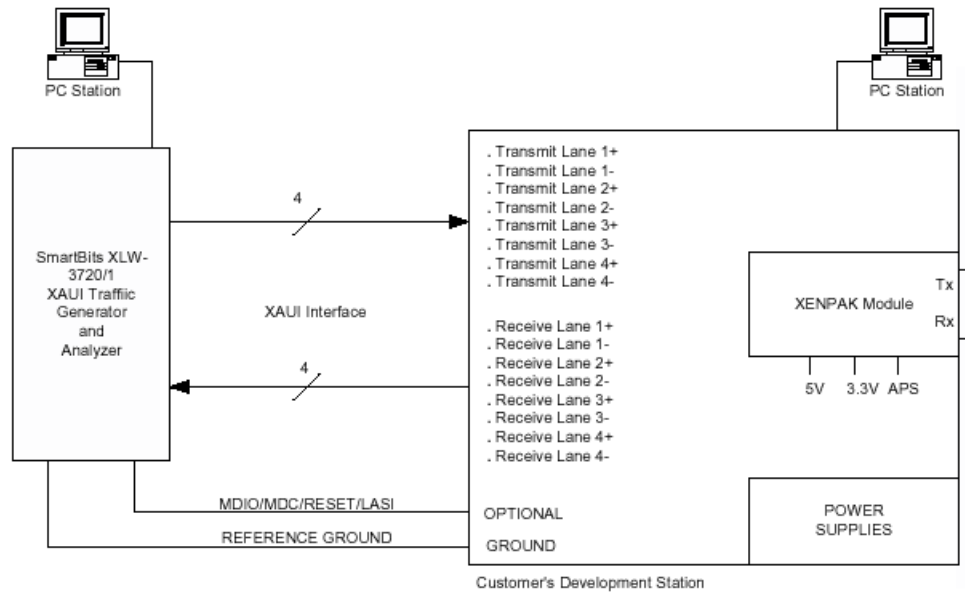
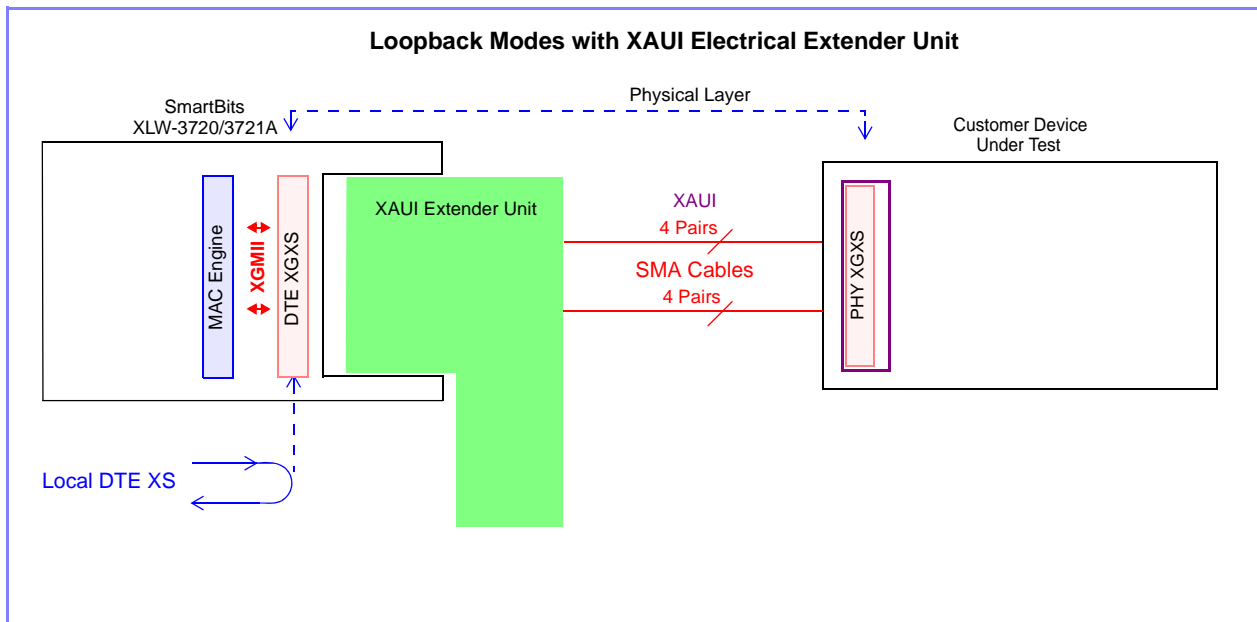
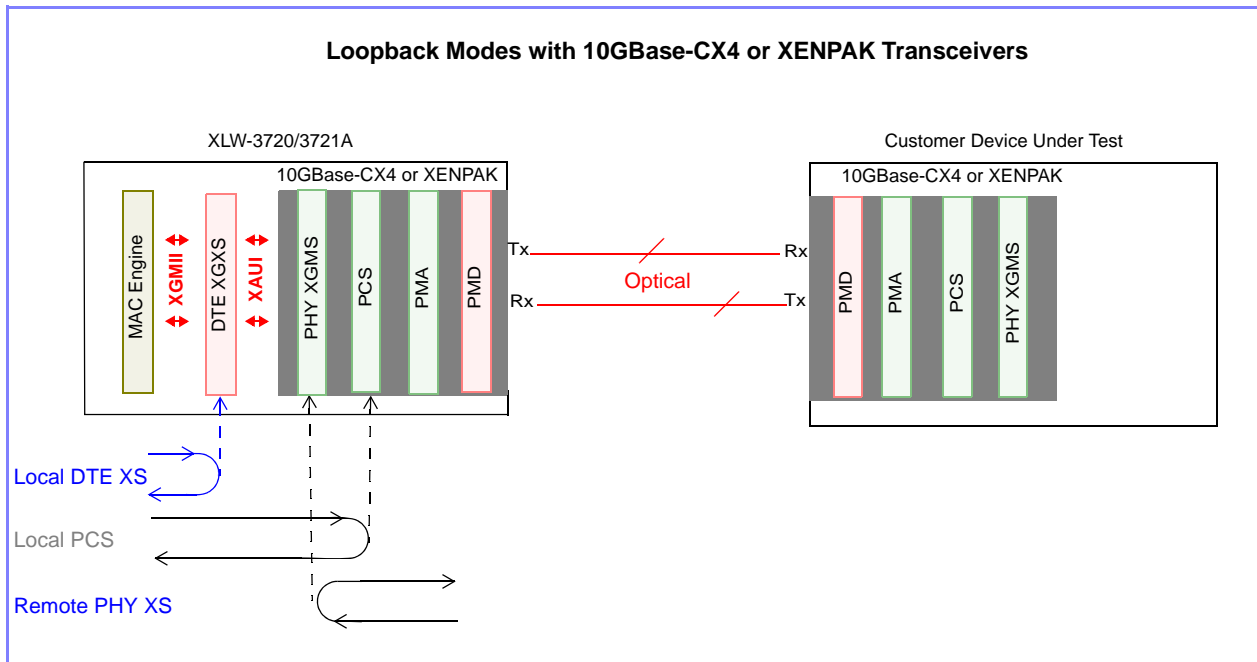

Figure 8-20. XAUI Test Bench (Example)
Figure 8-24. Loopback Modes with the XAUI Extender
Figure 8-25. Loopback Modes with the XENPAK and 10GBase-CX4 Transceivers
Figure 8-20 shows an example of an XAUI test bench.
- 2 Attach the SMA cables between the XAUI extended unit and the device under test. (See Figure 8-20 on page 346.)
- 3 Attach a suitable interconnect cable between the RJ-45 connector on the XAUI unit and the development station. This cable extends the MDIO/MDC bus to the PHY sub-layer devices located on the development station. (See Figure 8-20 on page 346 and Figure 8-25 on page 353.)
- 2 Select the loopback point (*Figure 8-24* and *Figure 8-25* on page 353).